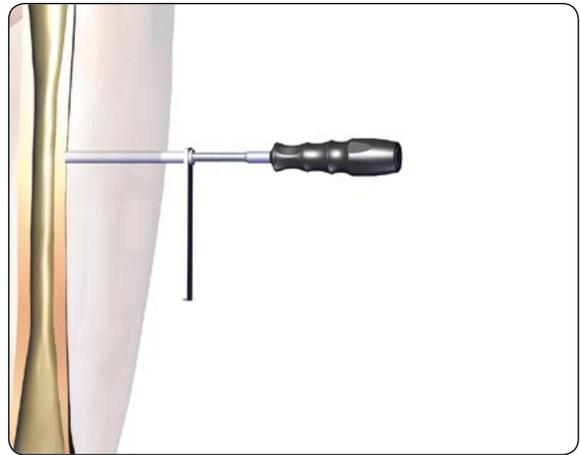

Fig. 2
- 2) Insert a screw guide perpendicular to the longitudinal axis of the bone. Use a trocar to locate the midline by palpation (**Fig. 2**).